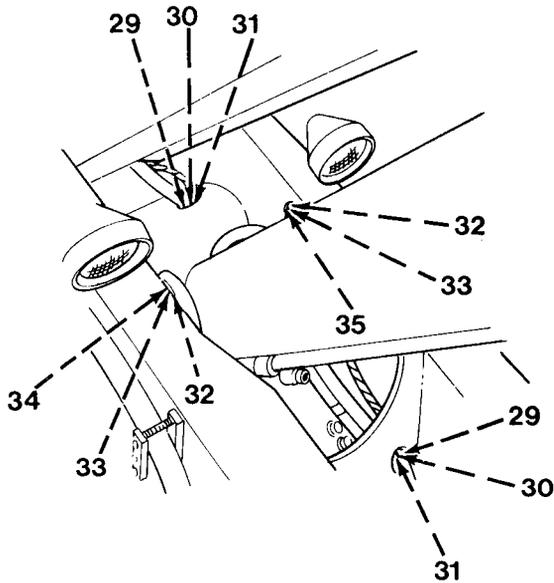
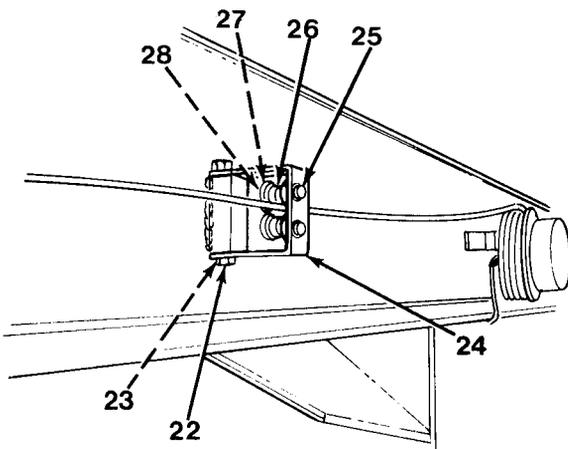

Figure 10-6
Figure 10-5
13. Install clamp (35), washer (33) and nut (32, Figure 10-6).
14. Install clamp (34), washer (33) and nut (32).
15. Remove two nuts (29) and washers (30).
16. Install two clamps (31), washers (30) and nuts (29).
19. Assemble roller bracket (24) by installing shoulder screw (28), washer (27), roller (26) and nut (25, Figure 10-5). Repeat for other roller.
20. Install roller bracket (24), two lockwashers (23) and capscrews (22).